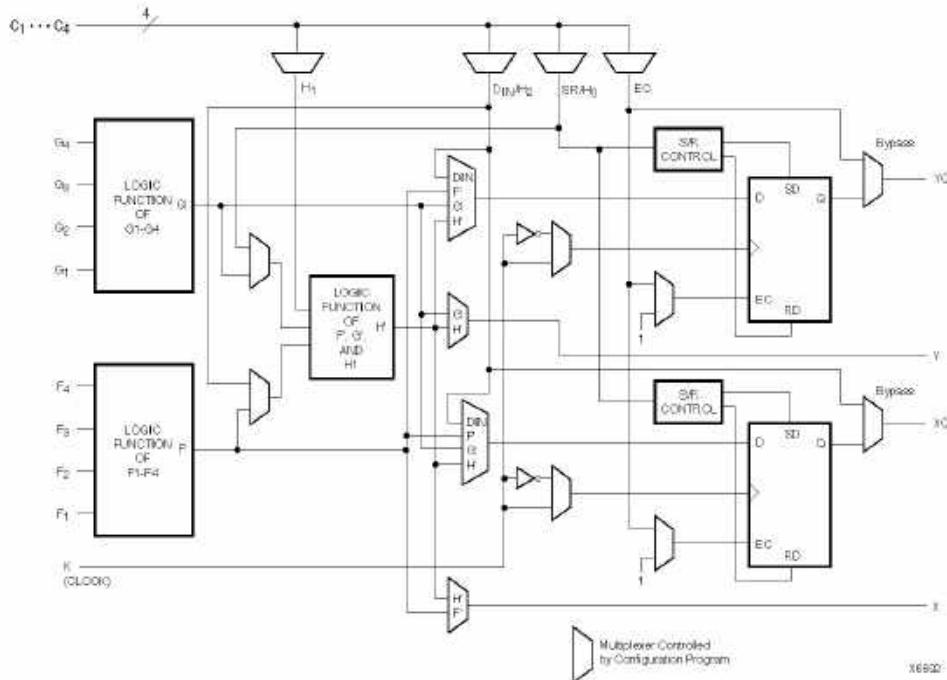

Figure 1: Simplified Block Diagram of XC4000 Series CLB (RAM and Carry Logic functions not shown)
Configurable Logic Blocks implement most of the logic in an FPGA. The principal CLB elements are shown in **Figure 1**. Two 4-input function generators (F and G) offer unrestricted versatility. Most combinatorial logic functions need four or fewer inputs. However, a third function generator (H) is provided. The H function generator has three inputs. Either zero, one, or two of these inputs can be the outputs of F and G; the other input(s) are from outside the CLB. The CLB can, therefore, implement certain functions of up to nine variables, like parity check or expandable-identity comparison of two sets of four inputs.
A separate Global Set/Reset line (not shown in Figure 1) sets or clears each storage element during power-up, re-configuration, or when a dedicated Reset net is driven active. This global net (GSR) does not compete with other routing resources; it uses a dedicated distribution network.
Two fast feed-through paths are available, as shown in Figure 1. A two-to-one multiplexer on each of the XQ and YQ outputs selects between a storage element output and any of the control inputs. This bypass is sometimes used by the automated router to re-power internal signals.
Multiplexers in the CLB map the four control inputs (C1 - C4 in Figure 1) into the four internal control signals (H1, DINH2, SRH0, and EC). Any of these inputs can drive any of the four internal control signals.